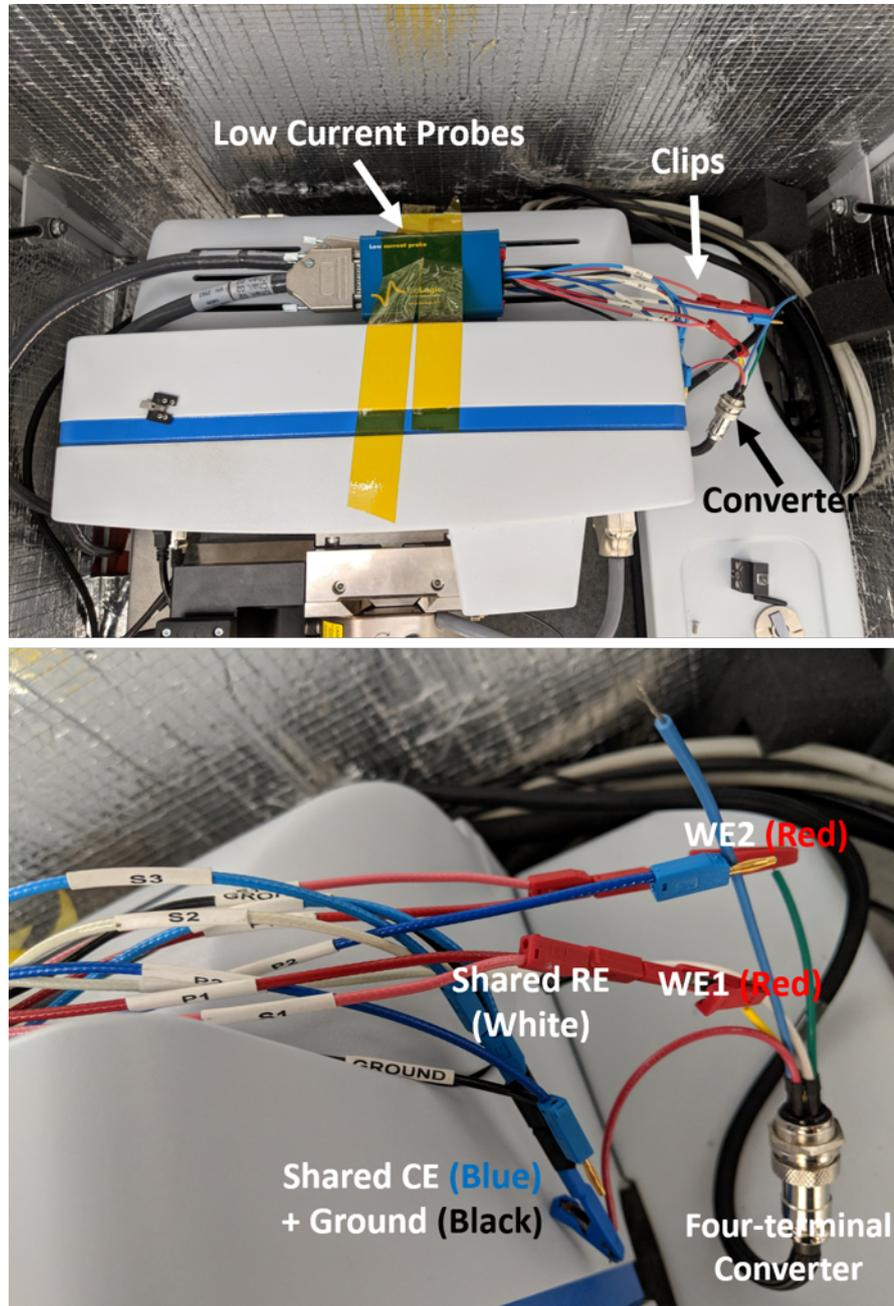

Figure 5. The connection of Bio-Logic Cables and Clips and the four-terminal converter inside the hood of the Dimension Icon
- g) Using the alligator clips, these cables can be connected to the multi-channel BNC converters provided by Bruker and finally to the small electrochemical spring terminal on the SECM chuck, Figure 5;